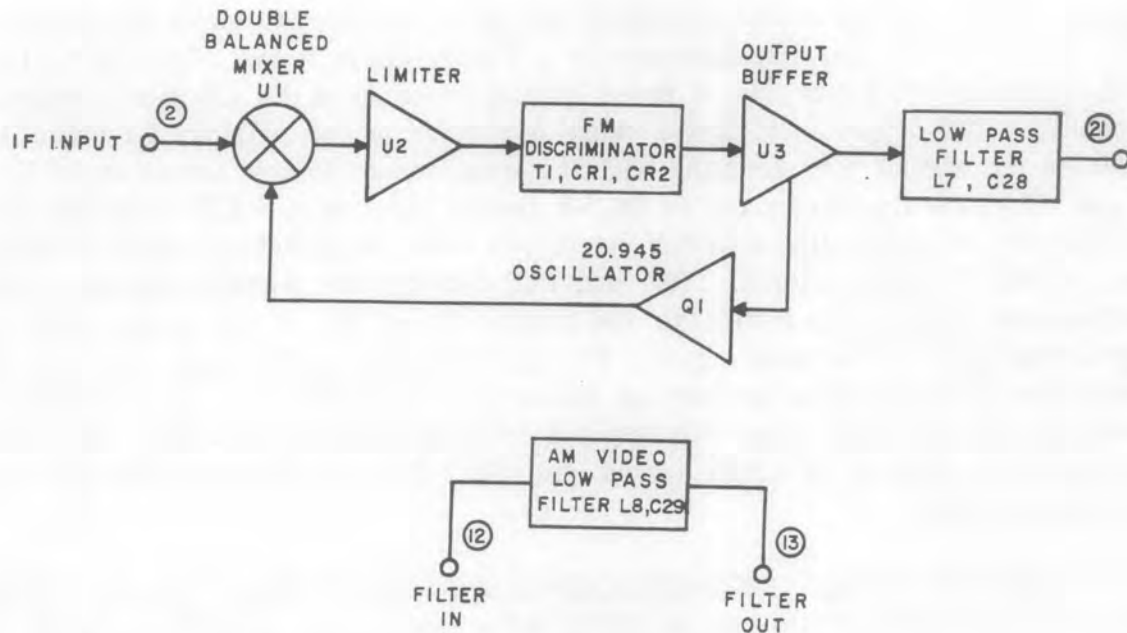

Figure 3-8. FM Limiter/Discriminators A6 (8 kHz-50 kHz)
3.9.8 TYPES 791205-1, -2, -3 AND -4 (8-, 10-, 20-, and 50-kHz BW), FM LIMITER/DISCRIMINATOR SUBASSEMBLYS (A6AY). - This subassembly is functionally similar to the types described above in paragraph 3.9.6, except that a mixer is included which converts the 21.4 MHz i-f down to 455 kHz before being applied to the limiter. (Refer to Figure 3-8 for Functional Diagram). Conversion of the i-f center frequency from 21.4 MHz down to 455 kHz is necessary to avoid temperature instability characteristics of discriminators having small bandwidth/center frequency ratios.